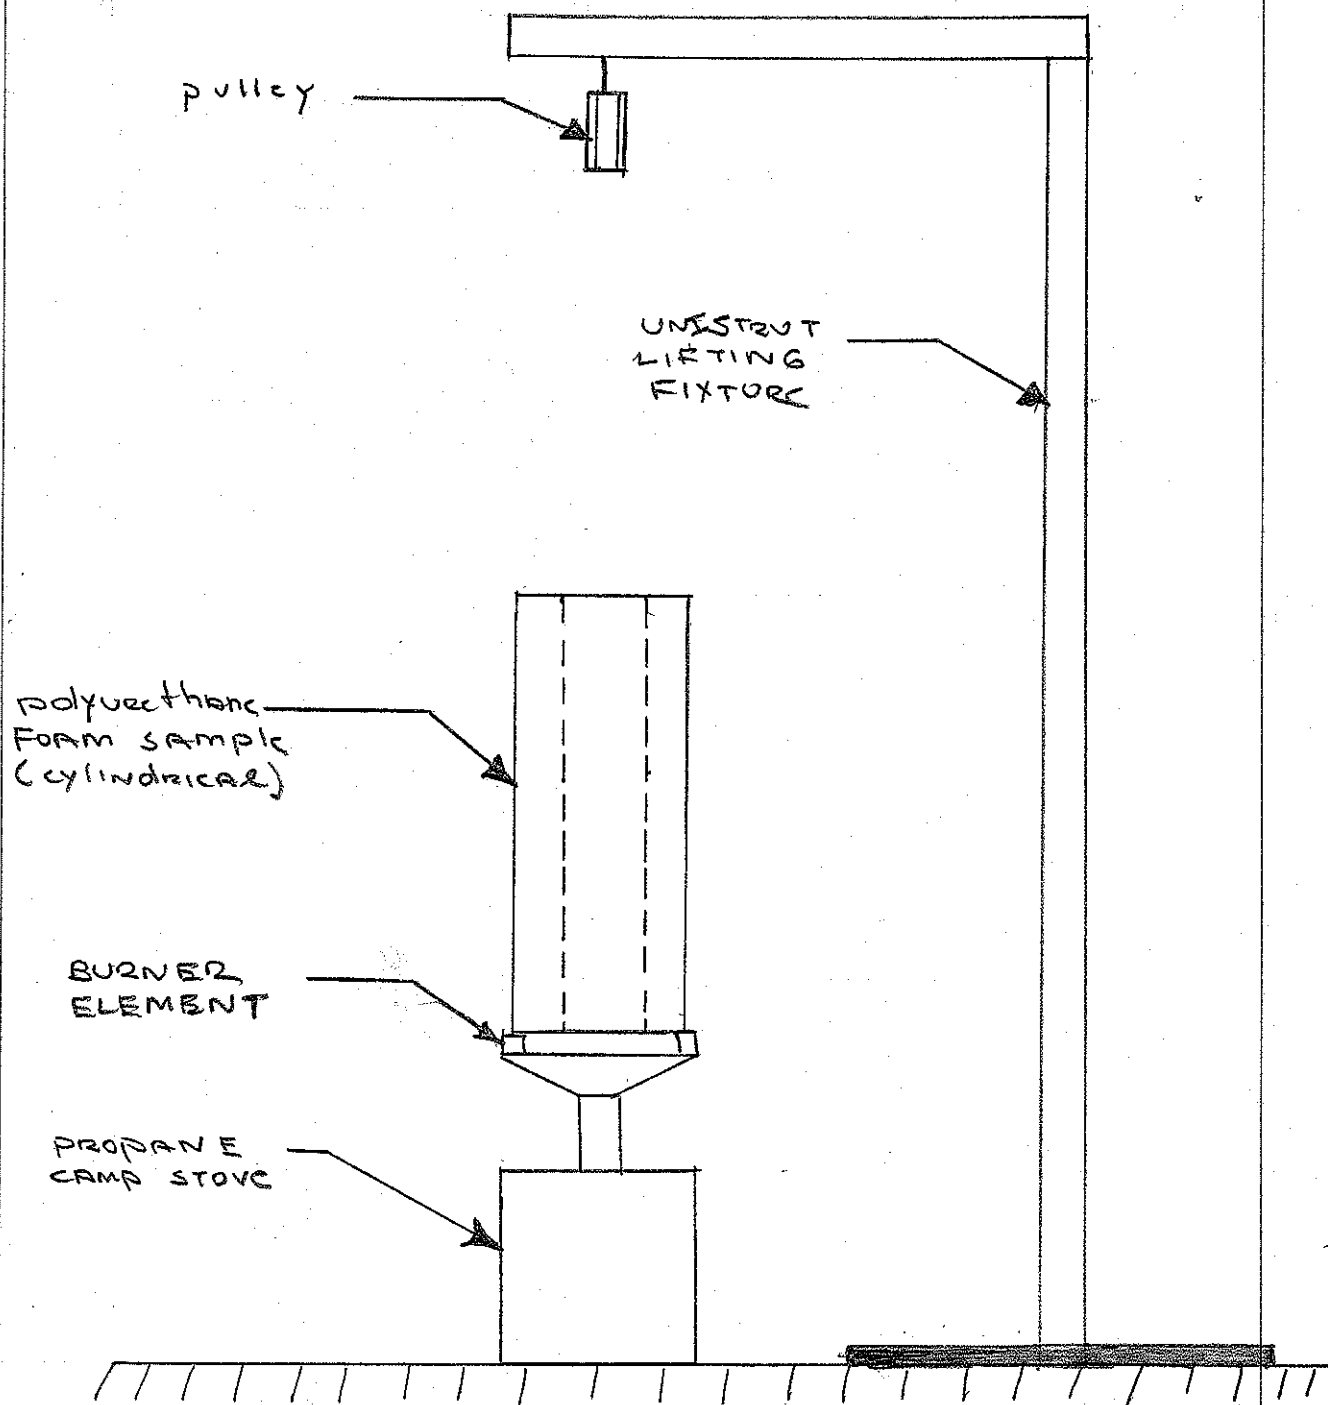

Fig. 1. CHIMNEY TEST FIXTURE
5. Place a supporting structure (Figure 1) next to the burner and polyurethane foam sample.